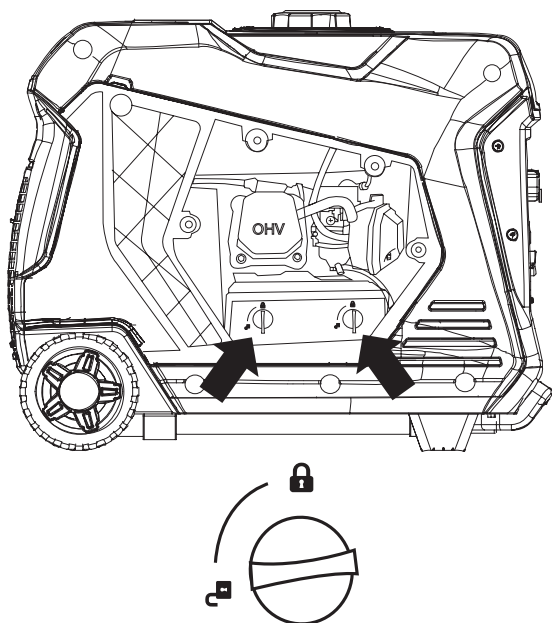

Figure 12: Unlock Air Filter Cover
3. Turn the 2 knobs on the air cleaner to unlock the cover. Tip the cover down to access the foam element (see Figure 12).